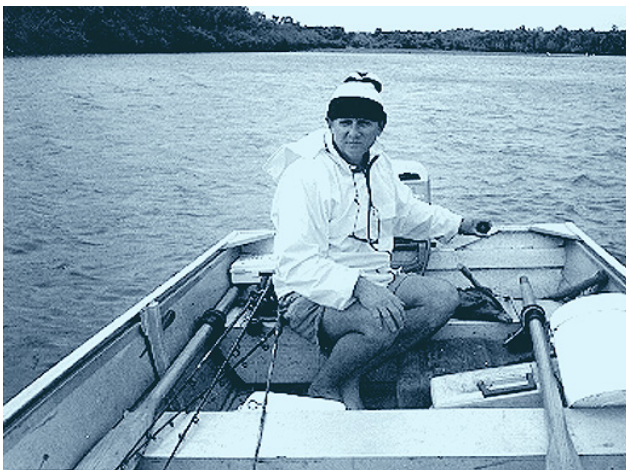

Figure 46.1 Photograph for question 3. Photograph courtesy Innsifail State High School.
- Look at Figure 46.1. Two people wish to board the dinghy. Make a list of things to do to comfortably seat the crew.
- If the boat is loaded as shown in figure 46.1, it may be a good idea to rearrange items in the boat before trying to board.